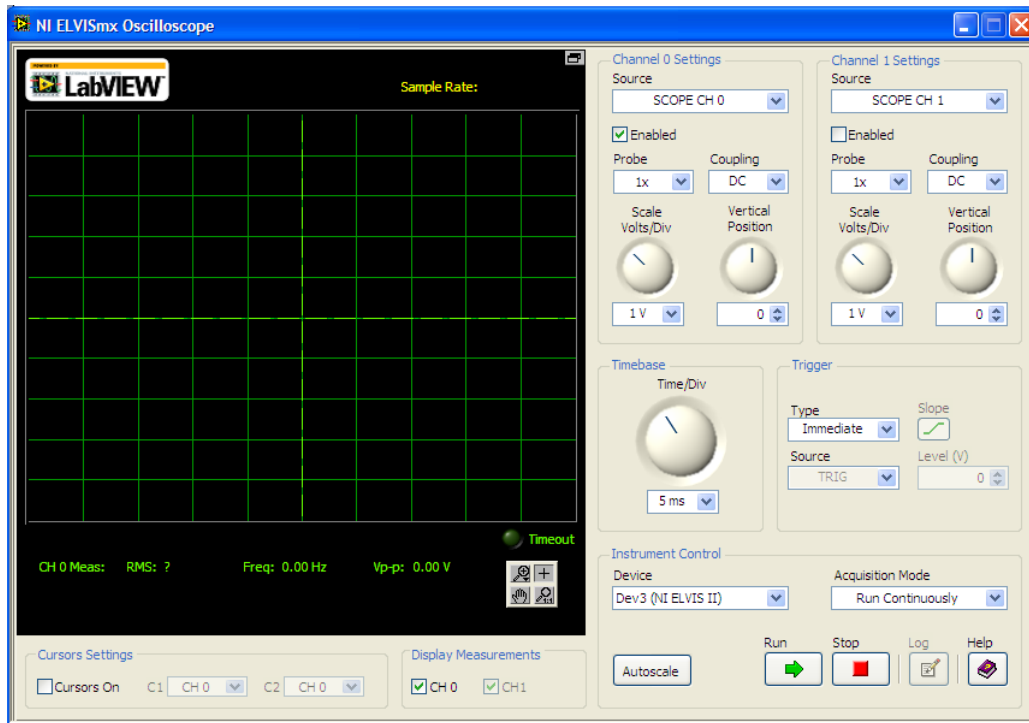

Fig. 14. NI Elvis Oscilloscope interface.
7. From NI Elvis instrument launcher, click on "Scope". The oscilloscope SFP is similar to most oscilloscopes, but NI Elvis oscilloscope can automatically connect to variety of inputs. The initial oscilloscope SFP without any signals should appear as shown in figure 14.